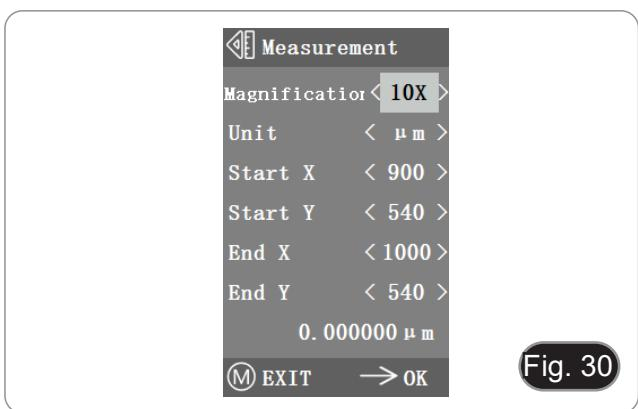

Fig. 30
- Move the starting and ending point of X and Y position by pressing ← and →: the measurement length is displayed in real time. (Fig. 30)